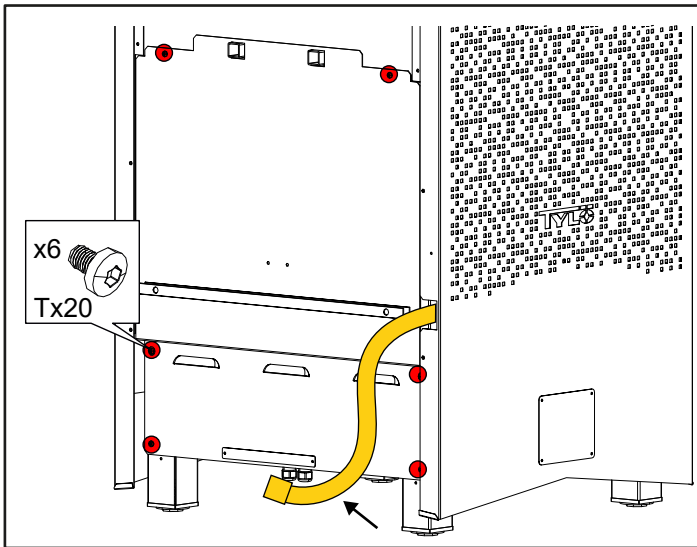

Figure 9: Lift out the LED and unscrew the hatch
3. Lift out the LED strip, see Figure 9.
4. Unscrews on the hatch, see Figure 9.